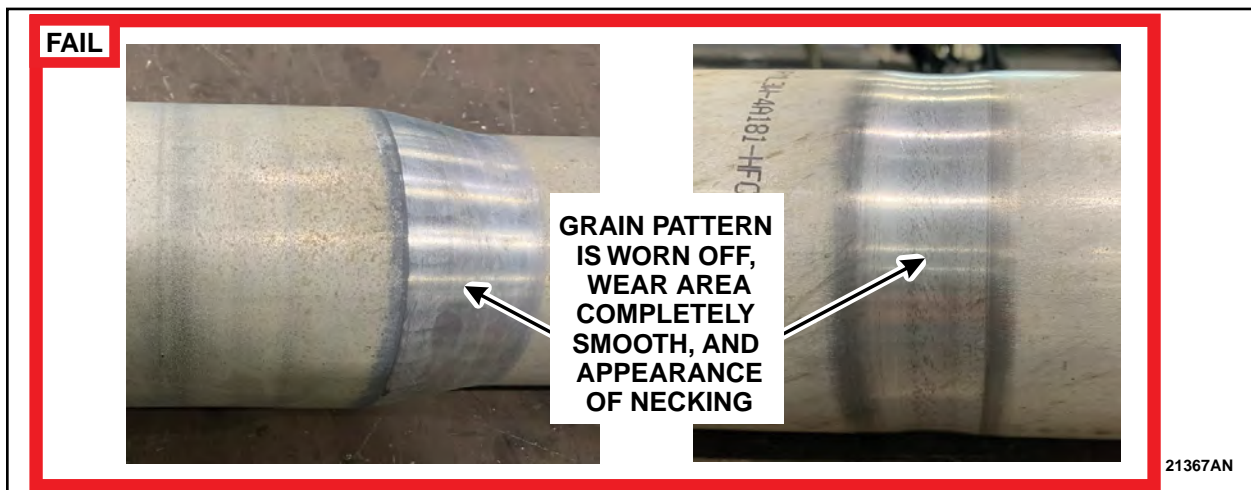

FIGURE 6
9. Inspect the marks found on Zone 2. Is the aluminum tube surface grain pattern worn off, completely smooth, or have an appearance of necking? See Figures 6 through 9.